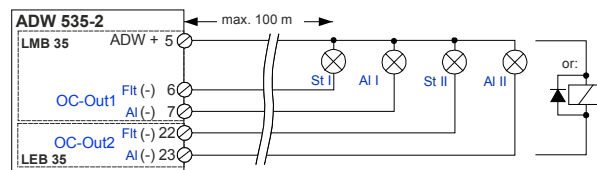

Fig. 29 Connecting the OC outputs
- When connecting inductive consumers (e.g. relays), a free-wheeling diode is to be installed directly at the consumer (Fig. 29).